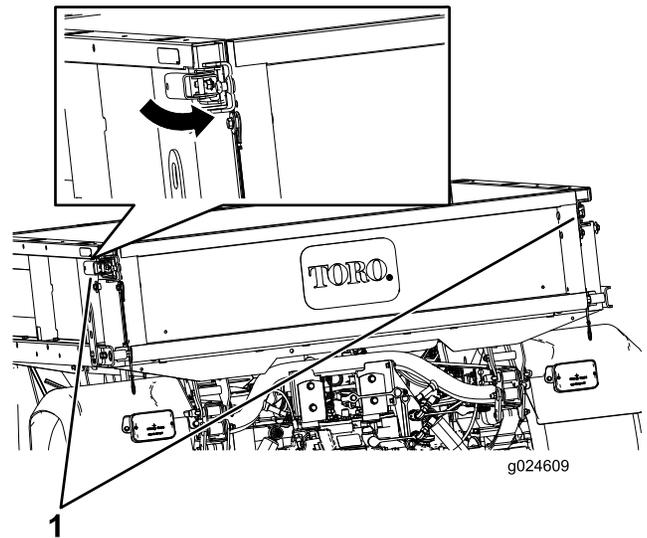

Figure 11
2. Open the latches on the left and right side of the cargo box and lower the tailgate (Figure 11).